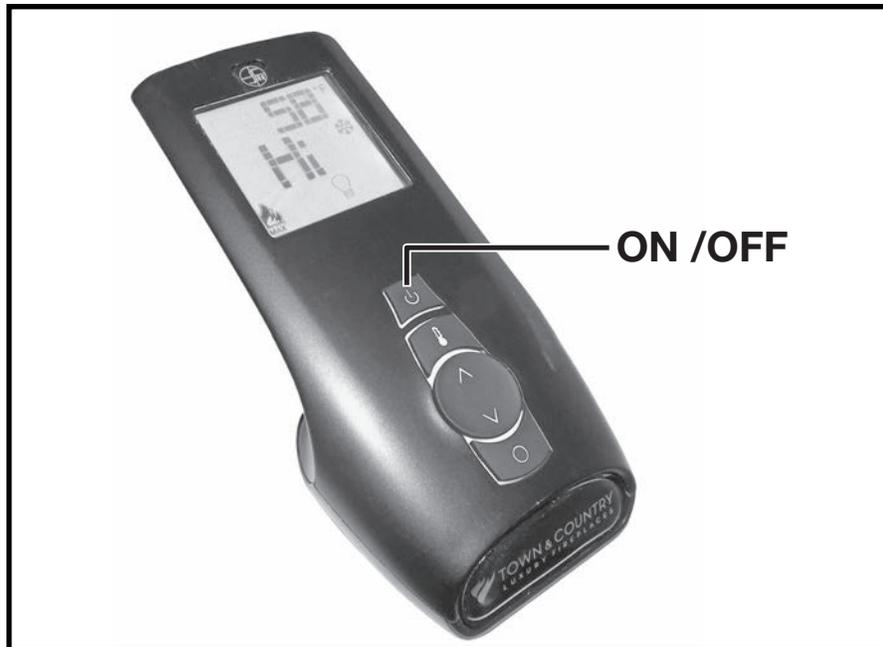

Figure 18: Remote handset.
3. Press and release the **on/off** button (Figure 18) on the remote handset (within 60 sec.)